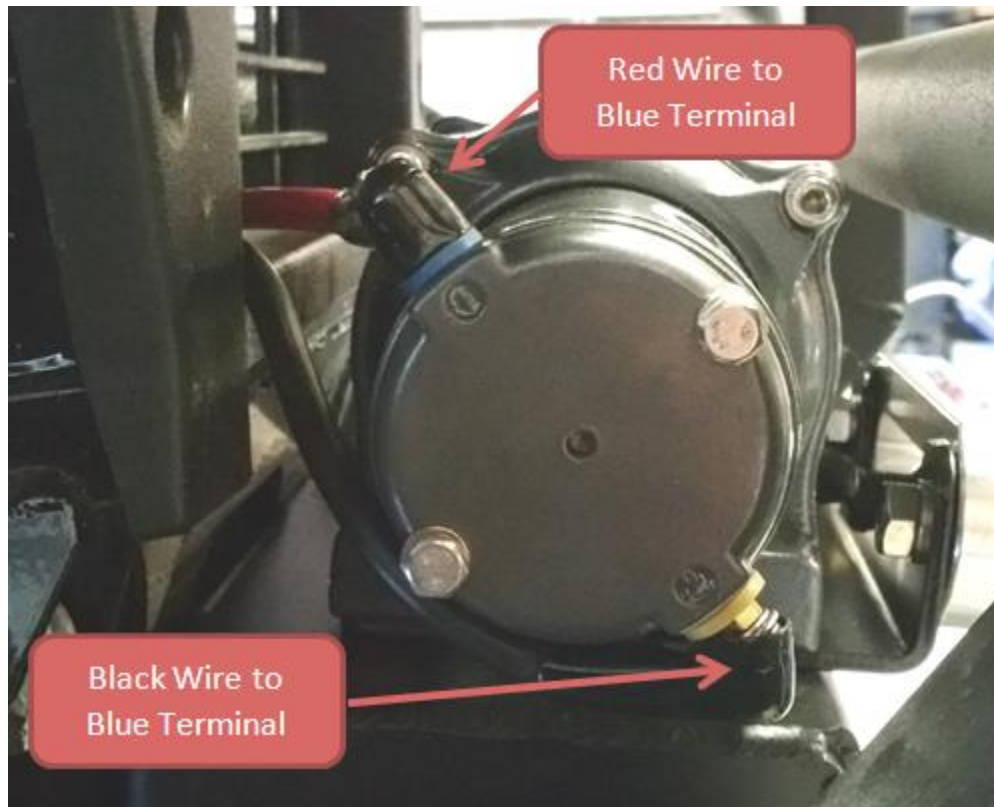

Figure 9
10. Connect the short pair of Red/Black power cables to the winch such that the Red wire is connected to the Blue winch terminal and the Black wire is connected to the Yellow winch terminal as shown in Figure 9.